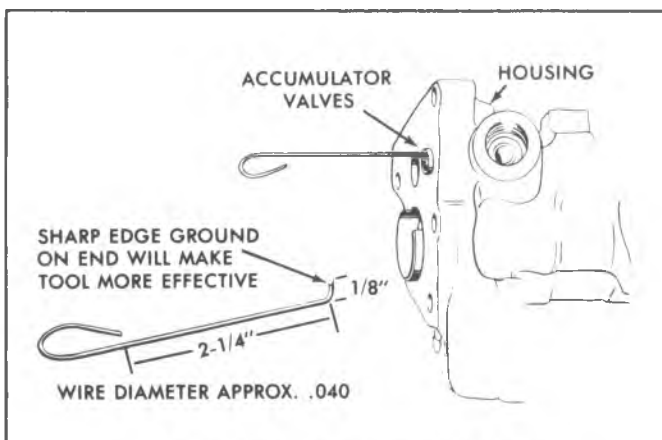

Fig. 5-5E--Removing Accumulator Valves
15. If accumulator valve was determined to be faulty, remove valve using a small diameter wire tool (fig. 5-5E). Remove the dump valve by catching the tool